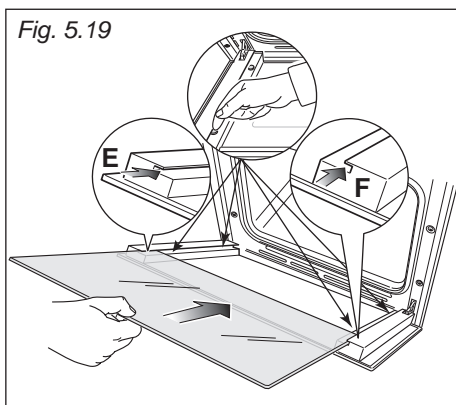

Fig. 5.19
IMPORTANT: It is advisable, while refitting the glass, to keep pressed in position the four rubber pads "D", by a finger, to avoid breakage or slippage of the rubber pads themselves (fig. 5.19).
- Insert the pane in the left "E" and right "F" slide guides (fig. 5.19), and gently slide it to the retainers "H" (fig. 5.20).